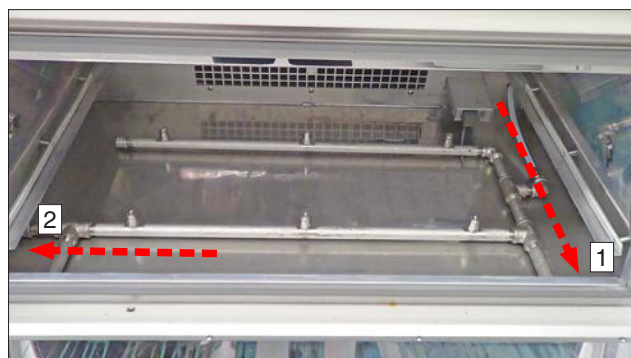

Figure 5.5b: Remove tape. Slide the manifold forward, then to the left.
- Slide the manifold forward until it contacts the front of the chamber below the chamber door ([Figure 5.5b \[1\]](#)).
- Then slide the manifold left until it contacts the left side of the chamber ([Figure 5.5b \[2\]](#)).